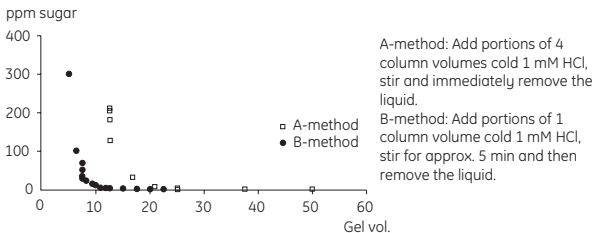

Fig 1. The content of sugar in the filtrate after washing with different medium volumes of cold 1 mM HCl.
2. CNBr-activated Sepharose 4 Fast Flow is supplied freeze-dried with sugar additives and is washed initially with 10–15 medium volumes of cold 1 mM HCl, see Fig 1. Use small wash portions (e.g. 1 medium volume) and let the mixture equilibrate a few minutes during each washing step. After washing, determine the exact medium volume obtained using e.g. centrifugation or PD-10 column (the medium volume may vary between experiments).